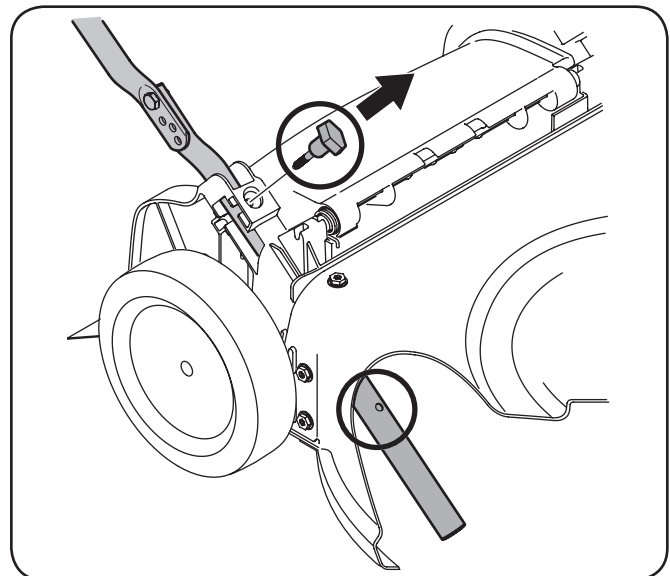
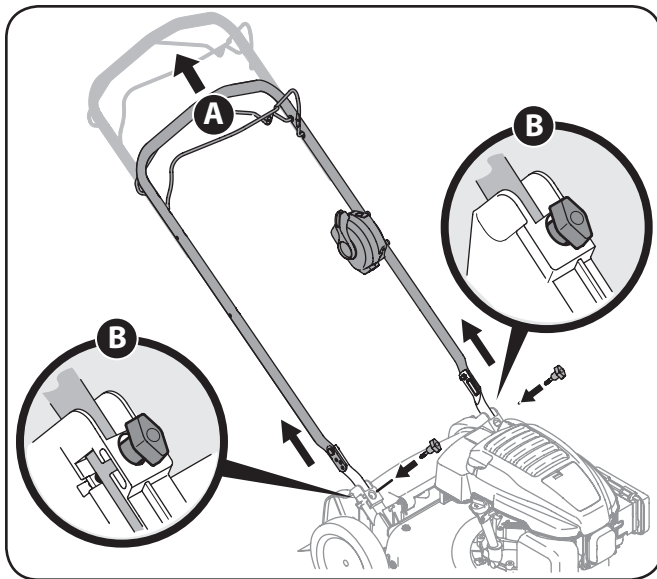

Figure 3-3
Figure 3-4
2. Remove the T-bolts from the handle brackets as shown in Figure 3-3.
- a. Pull upward on the handle approximately 8 inches until holes in lower handle (shown in Figure 3-3 deck cutaway) line up with holes in handle bracket. See Figure 3-4.
- b. Insert the T-bolts removed earlier through the handle brackets and lower handle and tighten securely to secure the handle in place. See Figure 3-4.